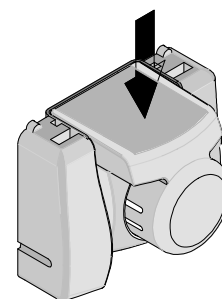

Figure 7B
5. Press the red insert down as far as it will go as shown in Figure 7B.
6. Holding onto the lower part of the locator with your thumb and index finger, insert the locator's top hooks (2) into the hand tool top slots.